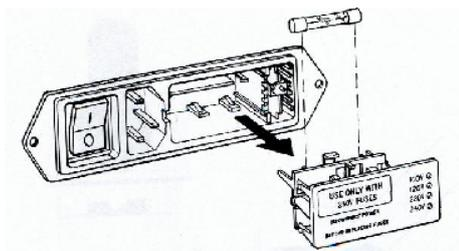

Figure 6-2 Fuse Removal
- Remove the fuse holder from the input-line connector as Figure 6-2 illustrates.